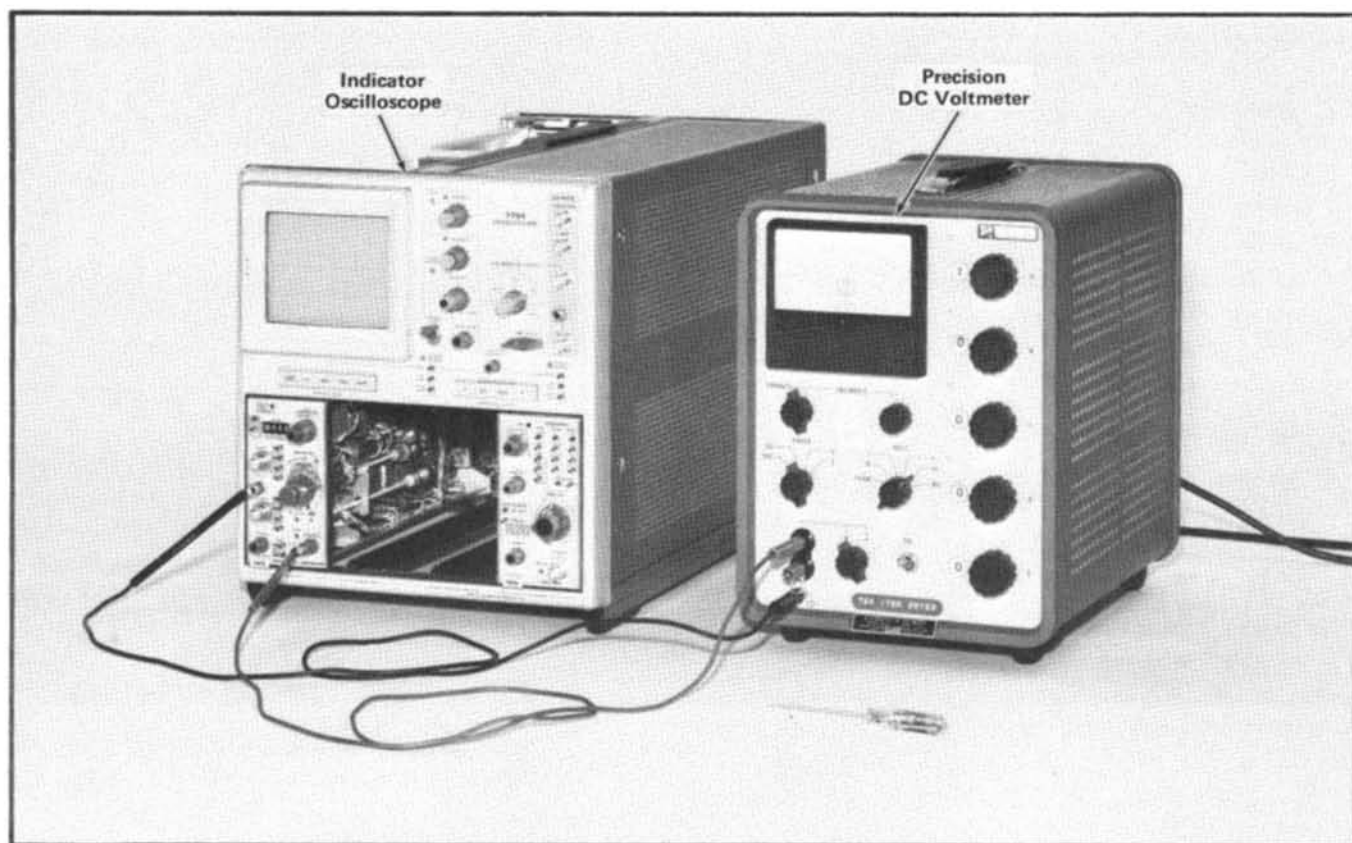

Fig. 5-26. Initial setup showing equipment required for performing steps 27 through 31.
- a. Test equipment setup, with connections made at completion of step 27d, is shown in Fig. 5-26.